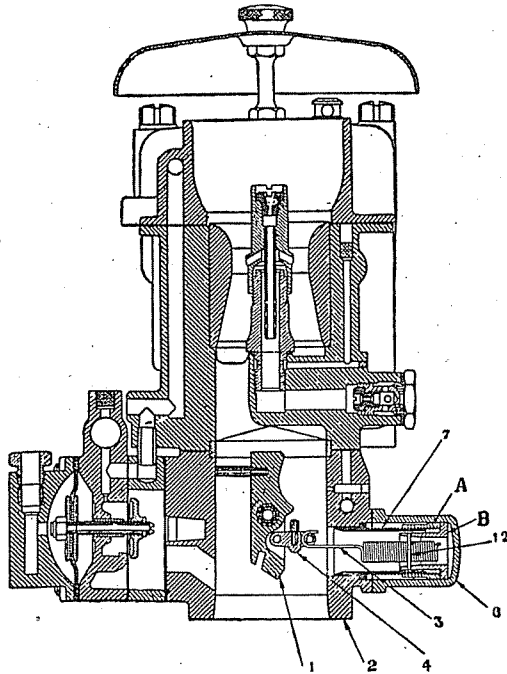

Fig. 10—Downdraught Solex Governor Carburettor in Section.
- (1) Throttle closed during idling by virtue of the usual exterior throttle pull off spring.
- (2) Throttle opens to full limit when driver depresses accelerator pedal.
- (3) Engine speed rises or falls to limit desired by foot accelerator control since the spindle and throttle dogs engage so locking the movement until—
- (4) The governed speed is reached, when air pressure on the throttle takes control and partially closes the throttle to fix and stabilise the speed at the desired maximum in spite of the fact that the foot accelerator remains fully depressed.
The outer anchorage of spring (3) consists of a steel peg (12) housed in a sleeve (B) and passing through the spring coils. The sleeve itself has no lateral fixing device, but the inner face of its hexagon abuts against the end of the tension nut (A) as shown in the cross-sectional view (Figure 10). The tension nut (A) is threaded and screws on to the housing (7). By screwing (A) out or in, therefore sleeve (B) will also move with it, and increase or decrease as the case may be, the tension of the spring.
An important adjunct to steady and sensitive governing lies in the method of attaching the spring hook to the throttle. Referring to Figure 10, the link (4) is seen pivoted to the throttle at its one end. The other extremity houses a bronze roller, over which the spring is hooked, this roller affording a wear free anchorage for it.